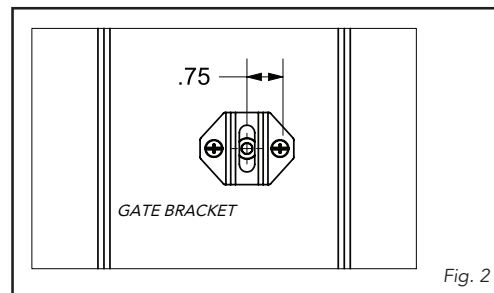

Fig. 2
4. Rotate the connector assembly into the "open" position. Measure 3/4" inward from the edge of the marked rectangle and mark (Fig. 2).